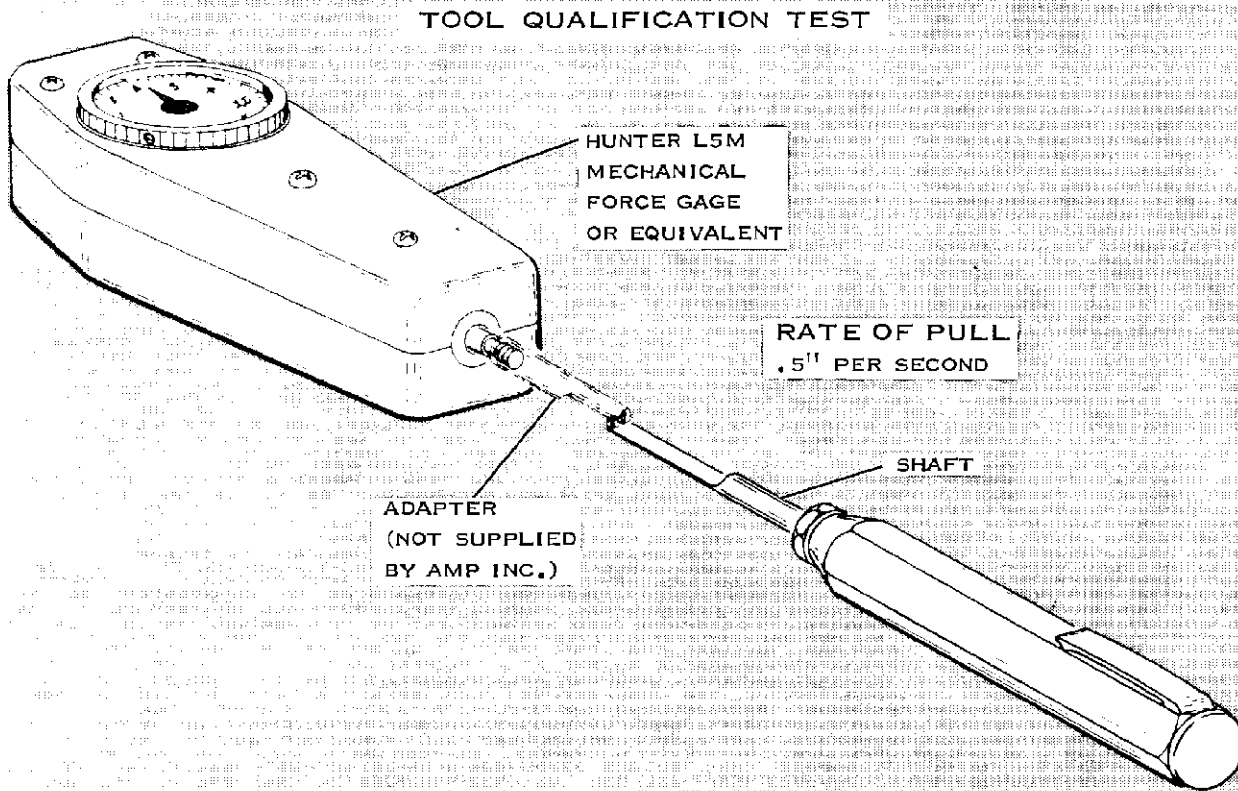

FIG. 3
- (a) Connect TERMI-POINT Test Tool to an accurate Mechanical Force Gage. A typical set-up using a Hunter L5M Force Gage and Adapter is shown in Figure 3.
- (b) Force Gage and Test Tool must be held in a horizontal plane and be aligned when making the test. Care must be taken to prevent binding between shaft and end of Test Tool. See Figure 3.